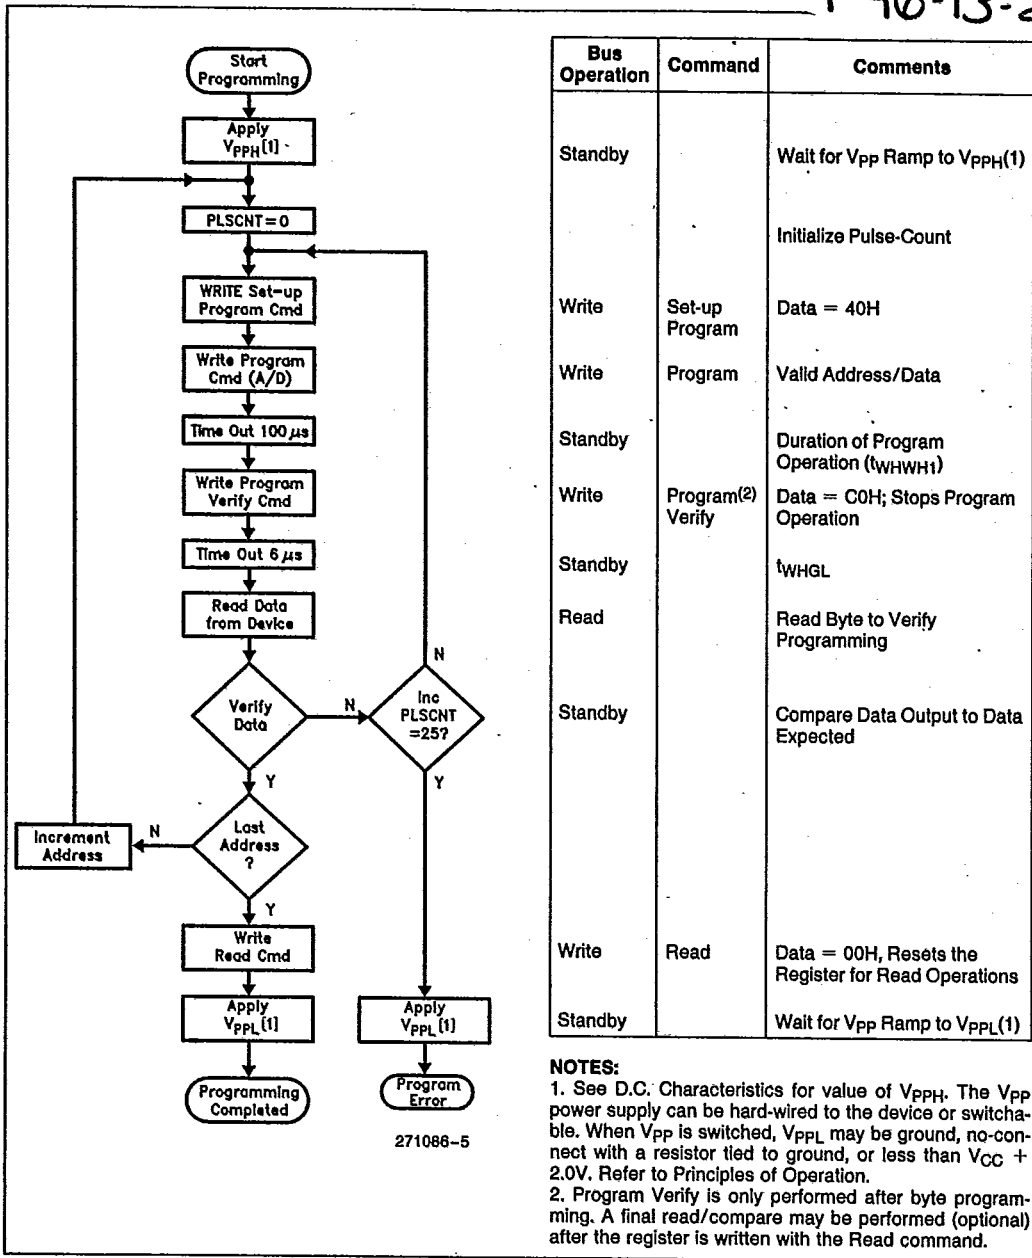

Figure 5. M28F256 Quick-Pulse Programming™ Algorithm
- Figure 5 illustrates the Quick-Pulse Programming™ Algorithm.
The M28F256 applies an internally-generated margin voltage to the byte. A microprocessor read cycle outputs the data. A successful comparison between the programmed byte and true data means that the byte is successfully programmed. Programming then proceeds to the next desired byte location. Figure 5, the M28F256 Quick-Pulse Programming™ Algorithm, illustrates how commands are combined with bus operations to perform byte programming. Refer to A.C. Programming Characteristics and Waveforms for specific timing parameters.
ation is followed by a byte verification to determine when the addressed byte has been successfully programmed. The algorithm allows for up to 25 programming operations per byte, although most bytes verify on the first or second operation. The entire sequence of programming and byte verification is performed with V_{pp} at high voltage. Figure 5 illustrates the Quick-Pulse Programming algorithm.